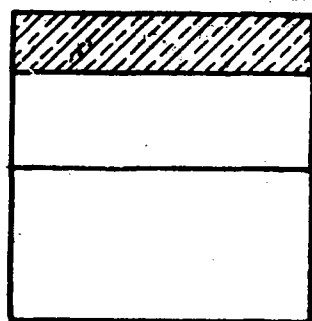

Fig. 2
- a *anti-friction radial bearings*, for radial stresses (Fig. 2);